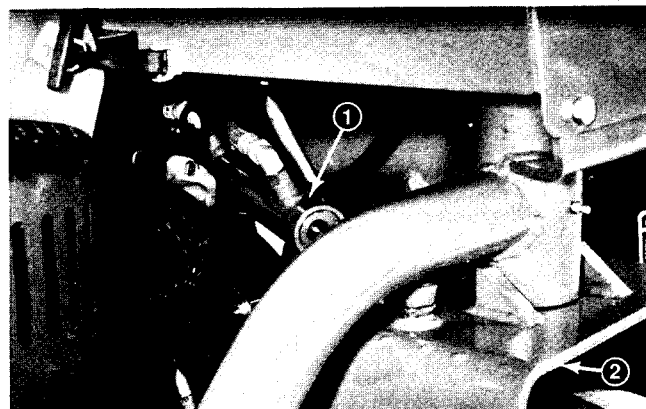

Figure 38
1. Disconnect the hydraulic hoses from the steering cylinder (Fig. 38). Put caps or plugs on all the fittings and hoses to prevent contamination.